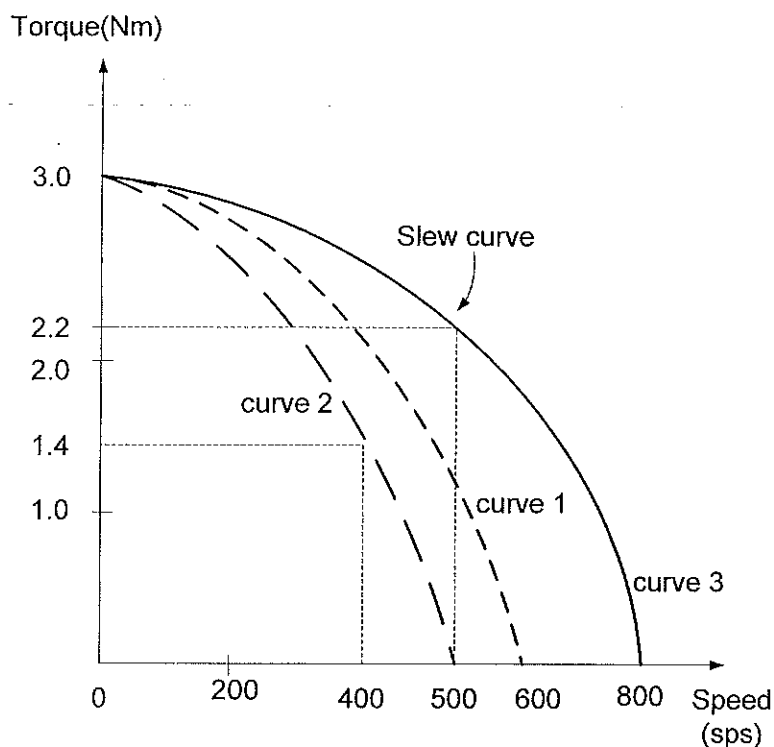

Figure Q1: start-stop and slewing characteristics of a typical stepper motor
- e) The torque speed characteristics of the stepper motor mentioned in (b) is given in figure Q1. Calculate the power developed by motor when it is slewing